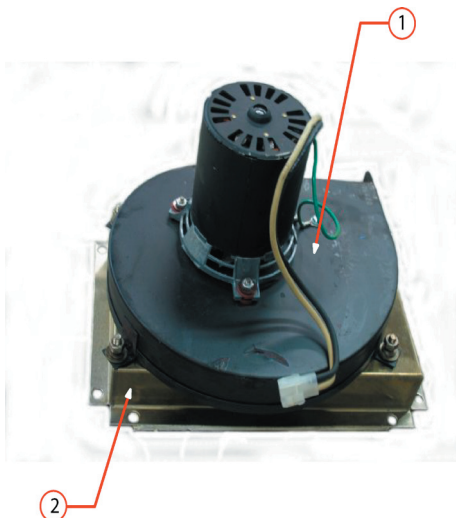

Figure 1: Blower Motor Assembly
- A. On a P30-style fryer, the blower motor assemblies are to be bolted to the rear of each fryer vat. The blower motor assembly consists of the black blower motor itself and its attached stainless steel blower box (see Figure 1).